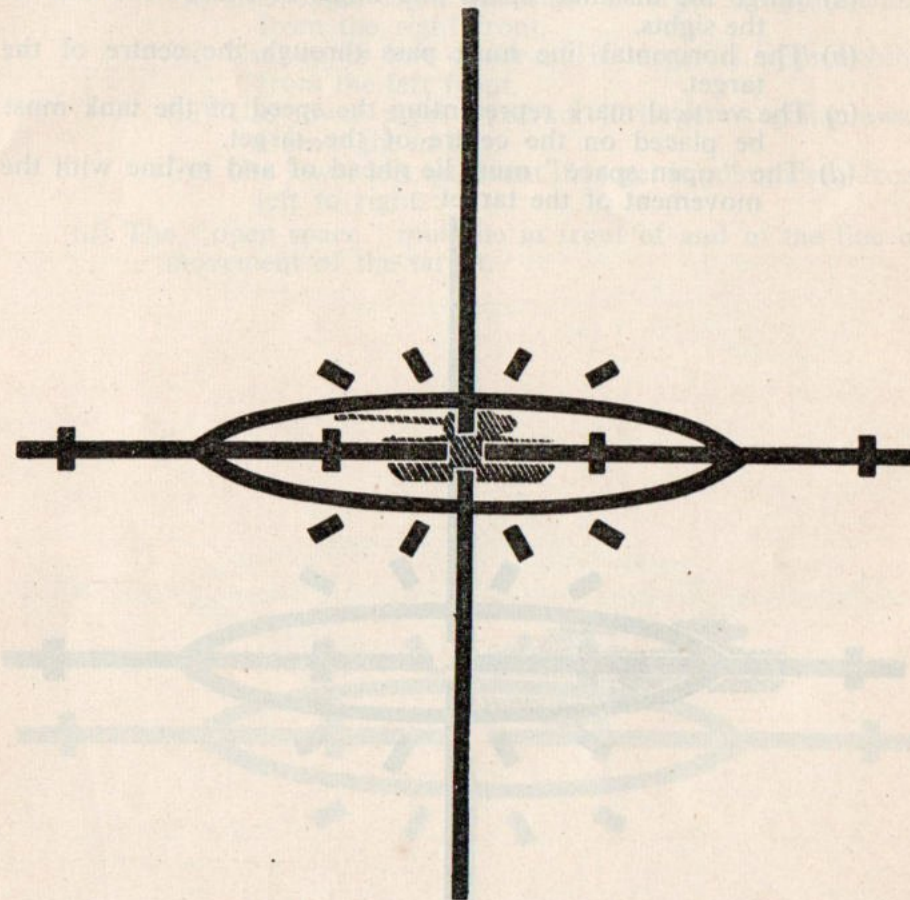

Fig 11.—Correct aim—stationary tank
12. *Stationary targets.*—Explain, using a diagram, that to aim at stationary targets (see Fig 11):—